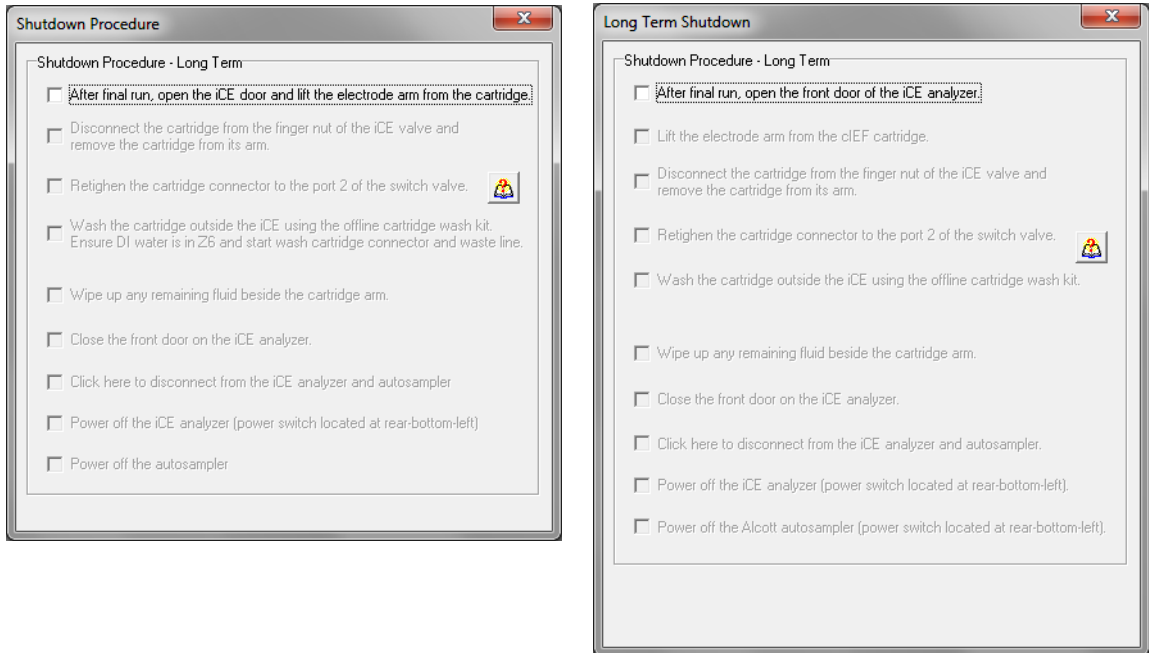

Figure 10-6: Long term shutdown protocol in iCE CFR Software for PrinCE Next (left) and Alcott 720NV (right) in versions 3.0 and 4.0.
1. In iCE CFR Software, select **Operate** from the main menu, then click **Shutdown** and **More than 7 days**. The long term protocol checklist will display (Figure 10-6):